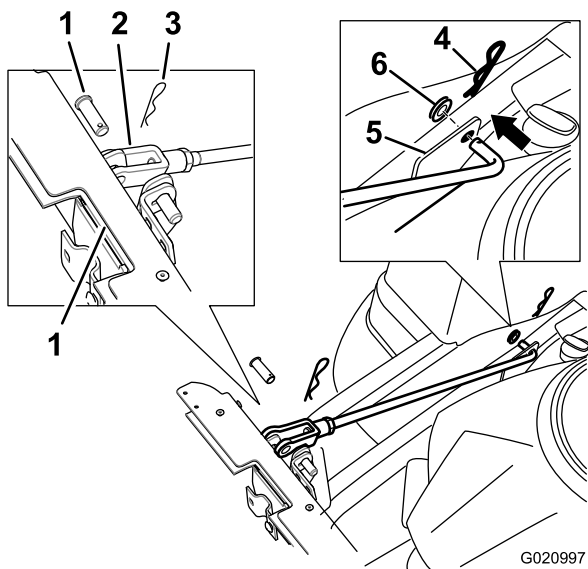

Figure 7
7. Install two support rods, one to each side of the bagger frame. Locate the existing bracket between the rear drive wheel and frame (Figure 7).
8. Insert the bent ends of the rod into the bagger frame as shown in Figure 7. Secure the end of the rod with a washer and hairpin cotter pin.
- Secure the clevis end of the rods to the bagger frame using a clevis pin and hairpin cotter pin (Figure 7).